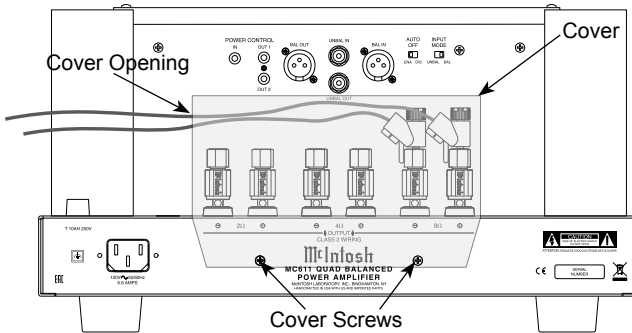

Figure 5 (Inside USA and Canada)
cover opening on the left side. Refer to figure 5.
*Note: The illustration in figure 5 is connections for 8Ω (ohms) Loudspeakers.*
9. Attach the Terminal Connections Cover to the MC611 Rear Panel with the previously removed Screws. Refer to figure 5.